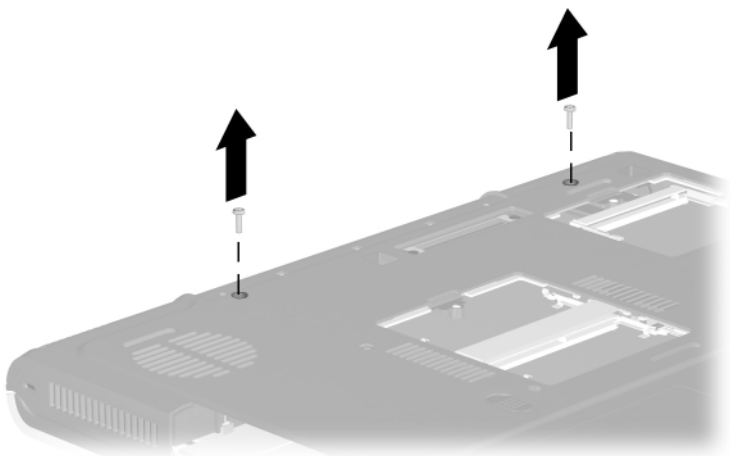

Figure 5-13. Removing the LED Cover Screws
3. Remove the two black PM2.0 \times 10.0 screws that secure the LED cover to the base enclosure (Figure 5-13).